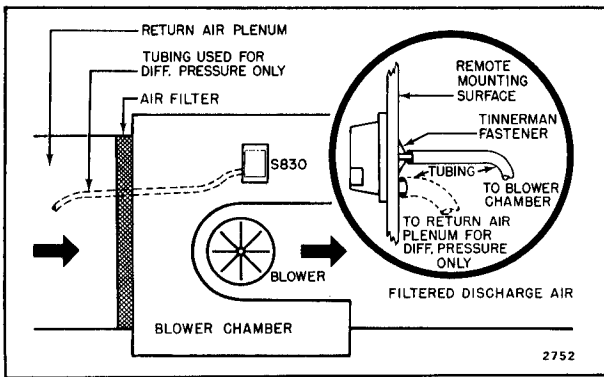

FIG. 1—MOUNTING LOCATION. INSET SHOWS REMOTE MOUNTING OF THE CASE.
The S830 must be located where it can sense pressure conditions in the blower chamber between the filter and the blower. On differential pressure applications, the case and tubing must be located where it can sense the pressure DIFFERENCE between the return air plenum and the blower chamber. See Fig. 1.
2. Select proper mounting template. Fasten template (gummed back) level in the exact location selected for S830 (Fig. 1).